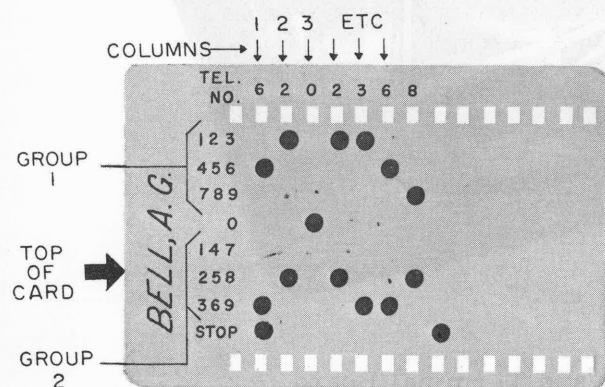

Fig. 5 - 7-Digit Card Coded for Telephone Number 620-2368 (MAin 0-2368)
- 4.03 Coding instructions for cards (Fig. 5 and 6) are as follows:
1. Write the name and the desired telephone number in the spaces provided as shown in Fig. 5 and 6. Convert the two exchange letters to numbers by referring to your telephone dial. (For example, use 2 for A or B or C.)
column 1 locate the first digit of the telephone number in group 1 and punch out the perforation with a pencil or ball point pen. (In Fig. 5 the number is 6.) In the same column locate the same number in group 2 and punch out the perforation. If not already removed, punch out the STOP in this same column.